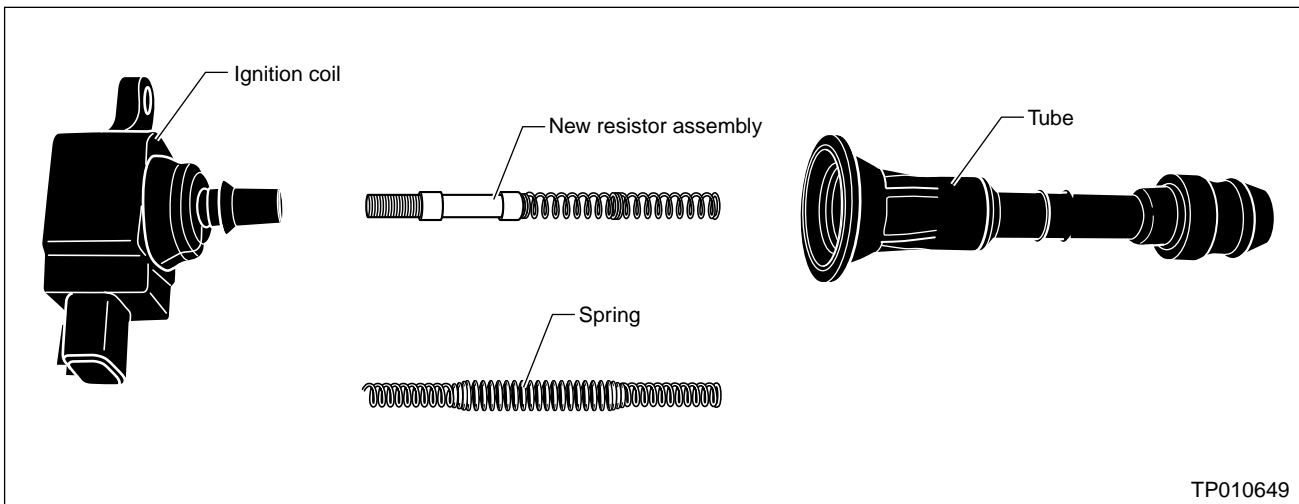

Figure 2
- B. Remove the spring from the ignition coil tube and discard. Insert the new resistor assembly into the ignition coil tube exactly as shown in Figure 2 below.